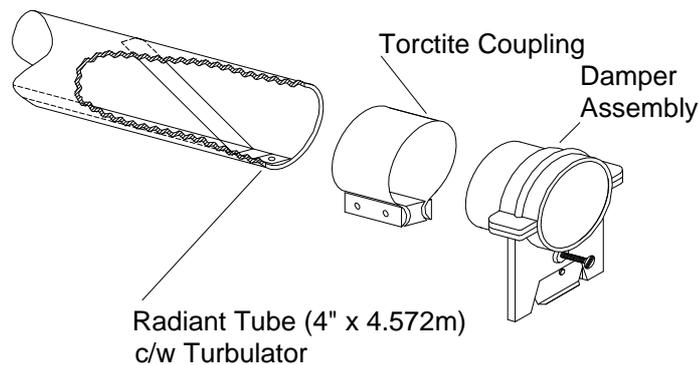

Fig 25
IMPORTANT: ensure that the turbulator is positioned adjacent to the Damper Assembly and orientated as shown in Fig. 25. Failure to assemble the Radiant Tubes with their welded seams facing away from the reflector will void the manufacturers warranty.
- 4.7.4 Place a second Torctite Coupling over the end of the Radiant Tube Assembly at the end where the turbulator is secured to the tube, (see Fig. 24 and Fig. 25) ensuring that it engages fully up to the stop. Assemble the Damper Assembly to the Radiant Tube, ensuring that it engages fully into the Torctite Coupling (up to the stop) and is positioned with the adjustable slide flange at its lower edge. Tighten the nuts of the Torctite Coupling to secure the Damper Assembly to the Radiant Tube, taking care to support the Damper Assembly in line with the axis of the tube.